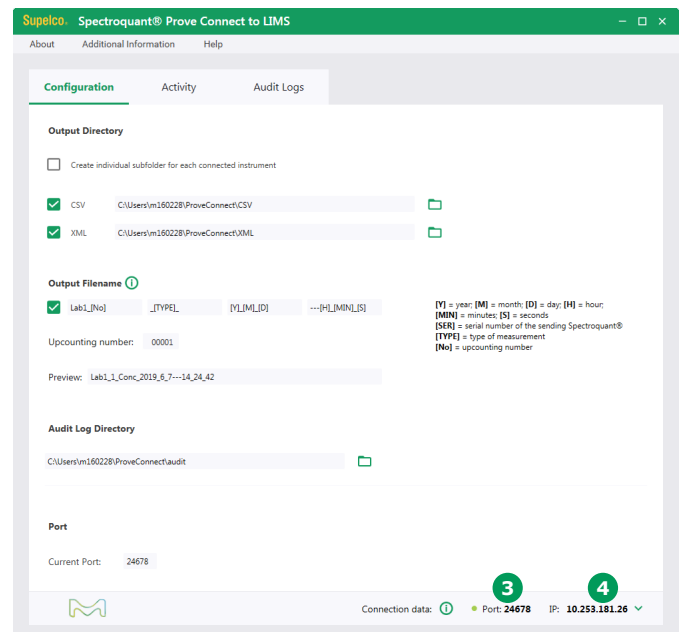
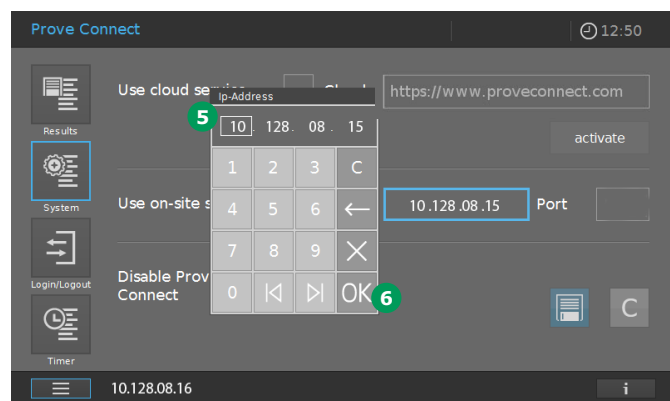

Figure 18 - Screenshot of Prove Connect for setup of network connection
Figure 20 - Screen of Spectroquant® Prove (Figure 17) with entered IP address of the PC on which Prove Connect runs
3. Enter the Port 3 and IP address 4 shown in the Prove Connect to LIMS status bar (Figure 18) into the instrument (Figure 20).
4. On the Spectroquant® Prove, click in the field "IP address" (text box with the blue border) and the entry field appears 5 (Figure 20).
5. Enter the IP address 4 (Figure 18) into the instrument.
6. Confirm the entered IP address with "OK" 6 (Figure 20).
8. Enter the Port 3 (Figure 18) shown in Prove Connect into the instrument.